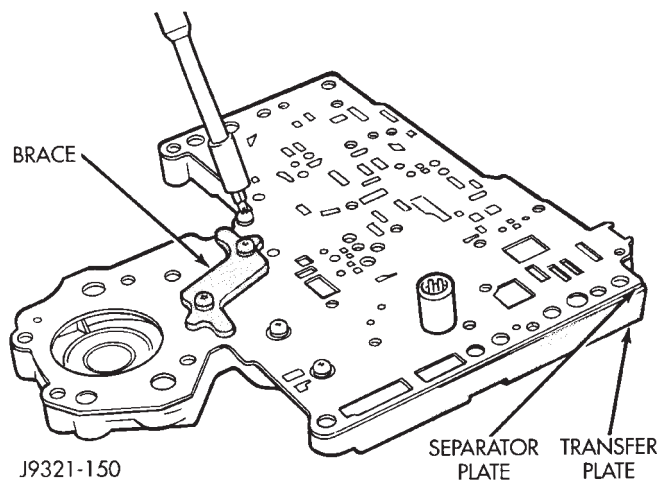

Fig. 99 Brace Plate
- (3) Align and position upper housing separator plate on transfer plate (Fig. 99).
- (4) Install brace plate (Fig. 99). Tighten brace attaching screws to 4 N·m (35 in. lbs.) torque.
- (5) Install remaining separator plate attaching screws. Tighten screws to 4 N·m (35 in. lbs.) torque.